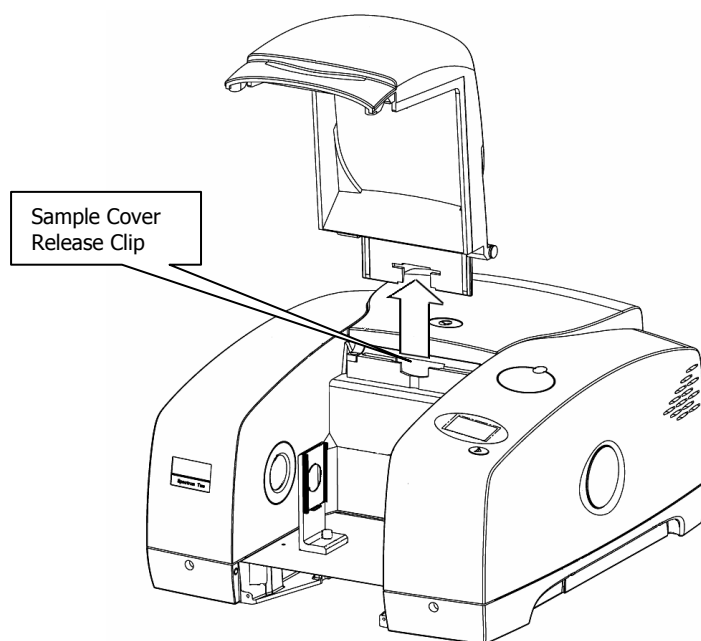

Figure 50 Removing the sample area cover
1. Remove the sample area cover if fitted by opening the cover, pressing the clip and pulling the cover vertically to remove (Figure 50).